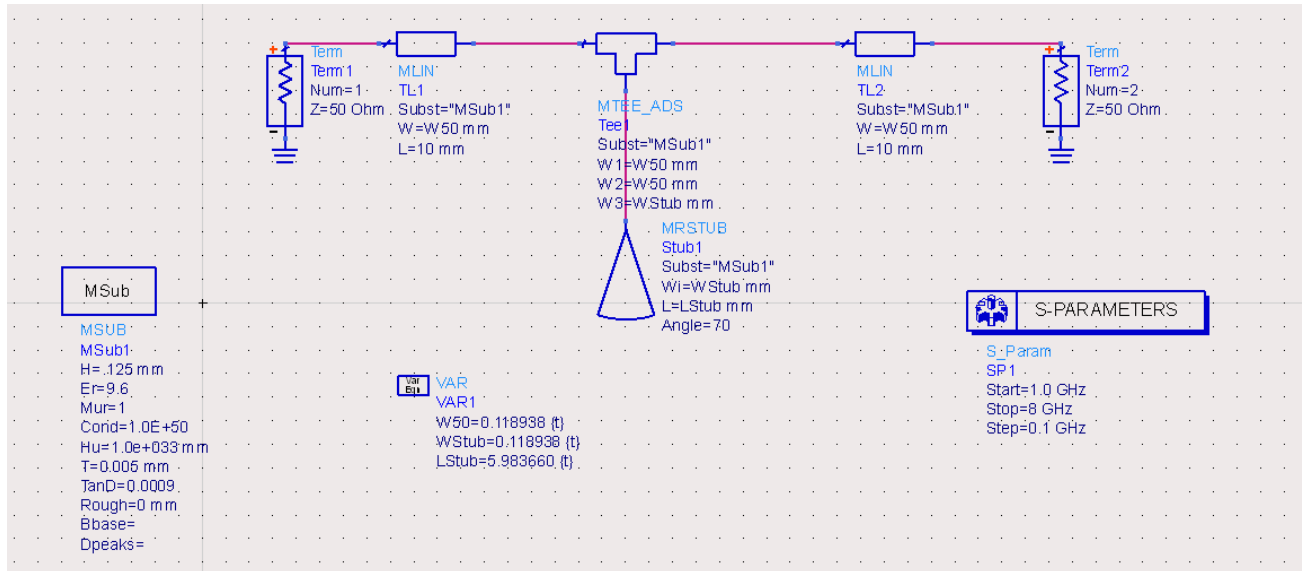

Figure 1: Harmonic Tuning Stub Circuit
1. Create the circuit schematic shown in Figure 1 and save it as “**HarmonicTuningStub.dsn**”. Your substrate parameters should be the following: **H = 0.125 mm, Er = 9.6, Mur = 1, cond = 1.0E+50, Hu = 1.0E+33 mm, T = 0.005 mm, TanD = 0.0009, Rough = 0 mm**. These will also be the parameters you will use in the electromagnetic simulation part of the exercise.